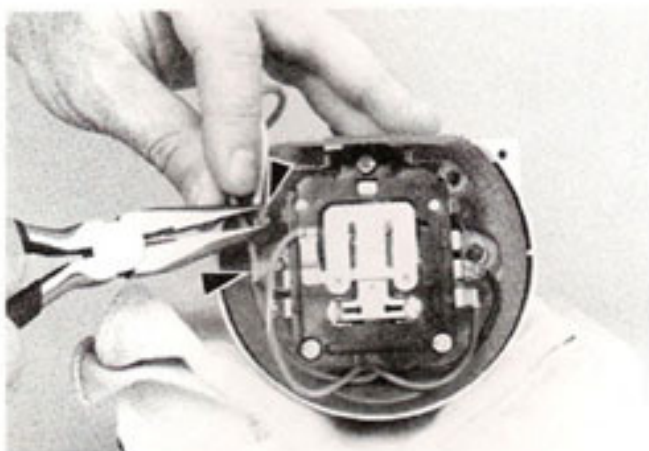
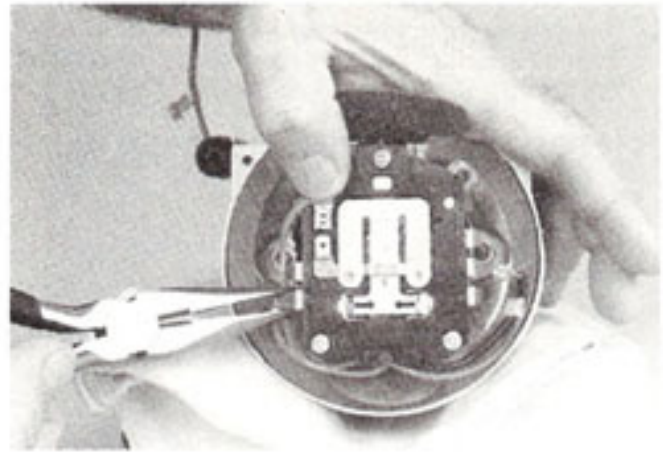
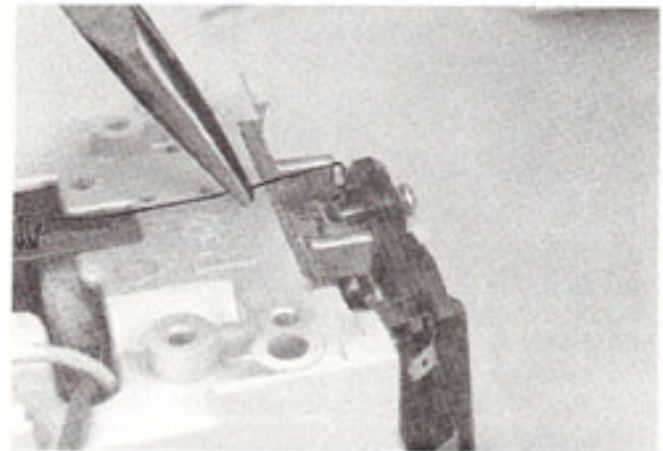
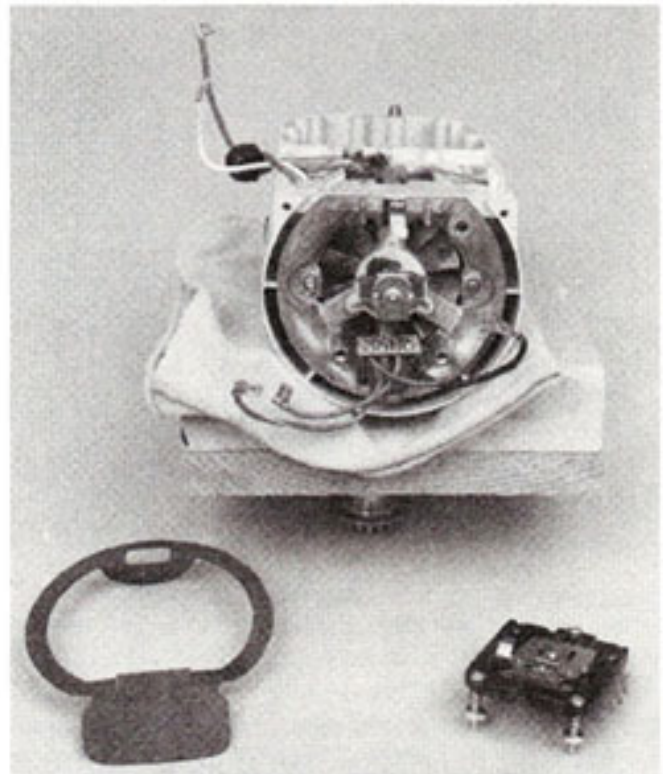

Fig. 15
Fig. 16
Fig. 17
Fig. 18
- A. Start disassembly of the control unit by removing the flag terminals from the stator (Fig. 15). Remove the end seal and disconnect the terminals from the phase control (Fig. 16). Unhook the control board spring at the bottom of the control board (Fig. 17). Unlock the two lock nuts on the control board and unscrew the two adjusting screws. The control board can now be removed (Fig. 18).